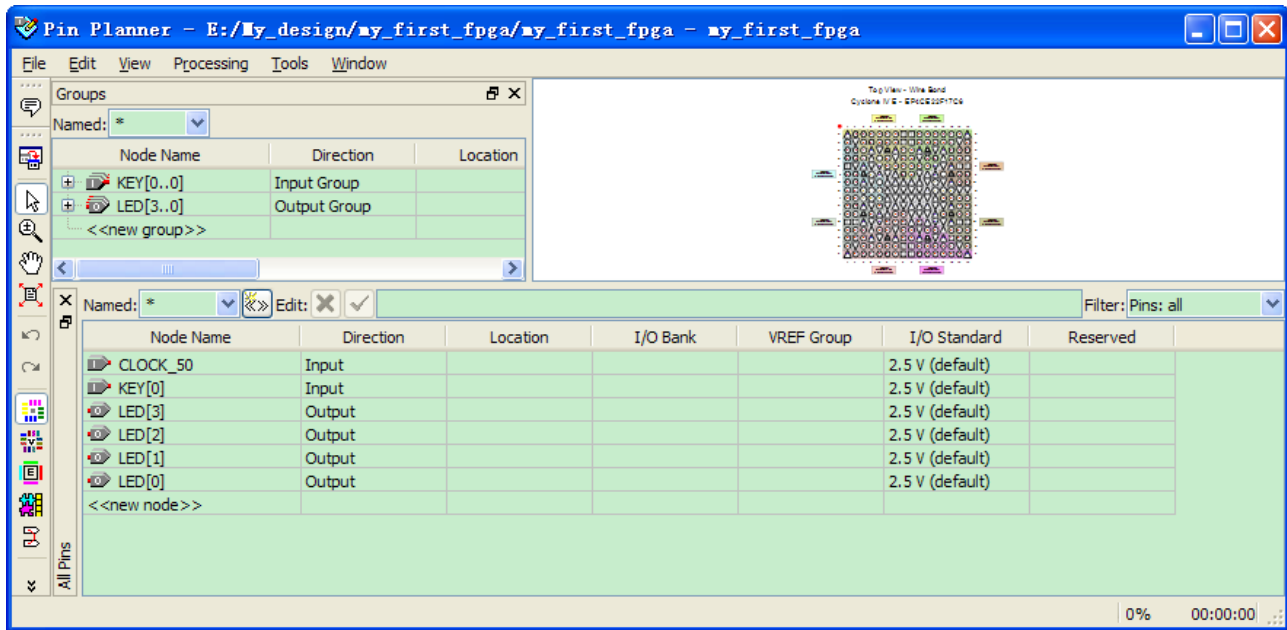

Figure 6-41 Pin Planner Example
1. Select **Assignments > Pin Planner**, which opens the Pin Planner, a spreadsheet-like table of specific pin assignments. The Pin Planner shows the design’s six pins. See **Figure 6-41**